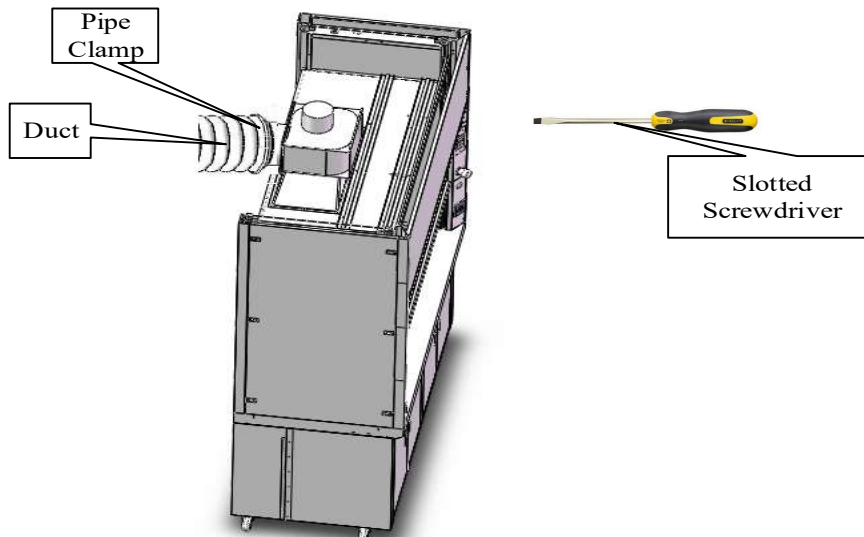

Figure 13
(3) Install the sink in the corresponding sink installation hole on the counter top, and then connect the pipe of the sink in the bottom cabinet (the sink and the drainage pipe have been connected to the factory) with the laboratory drainage pipe; if there are faucets and gas taps as an option, connect the pipes of the faucets and gas taps with the laboratory pipes.
(4) As shown in Figure 13, take the pipe card and external drainage pipe, first set the pipe card on the external drainage pipe, then set the external drainage pipe on the cabinet outlet, and finally fasten the pipe card with a word screwdriver, and connect the other side of the external drainage pipe to the outside.